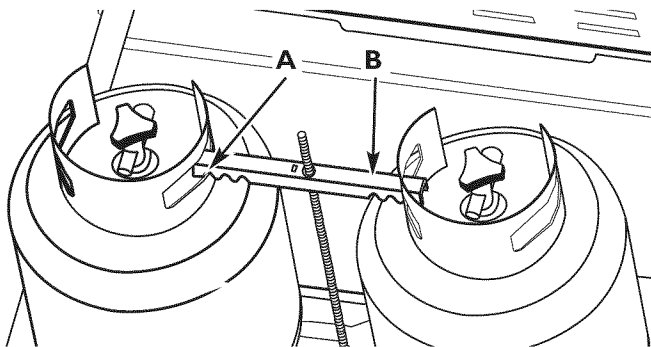

Figure 6 — Properly-Aligned Hold-Down Bracket
3. Slide the LP fuel tank hold-down bracket onto the threaded rod. Position the bracket so that its notches are aligned with both LP fuel tank collar holes, as shown in Figure 6.
5. Lift and remove the LP tank hold-down bracket from threaded rod (see Figure 6). It may be necessary to wiggle the LP fuel tanks to release the hold-down bracket.